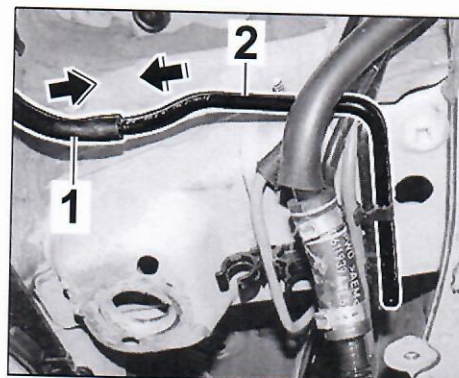

Figure 18
- 3.4.3 Join control line for wheel housing ⇒ *Figure 18-1*- to control line for door sill ⇒ *Figure 18-2*- (⇒ *Figure 18*-arrows-).